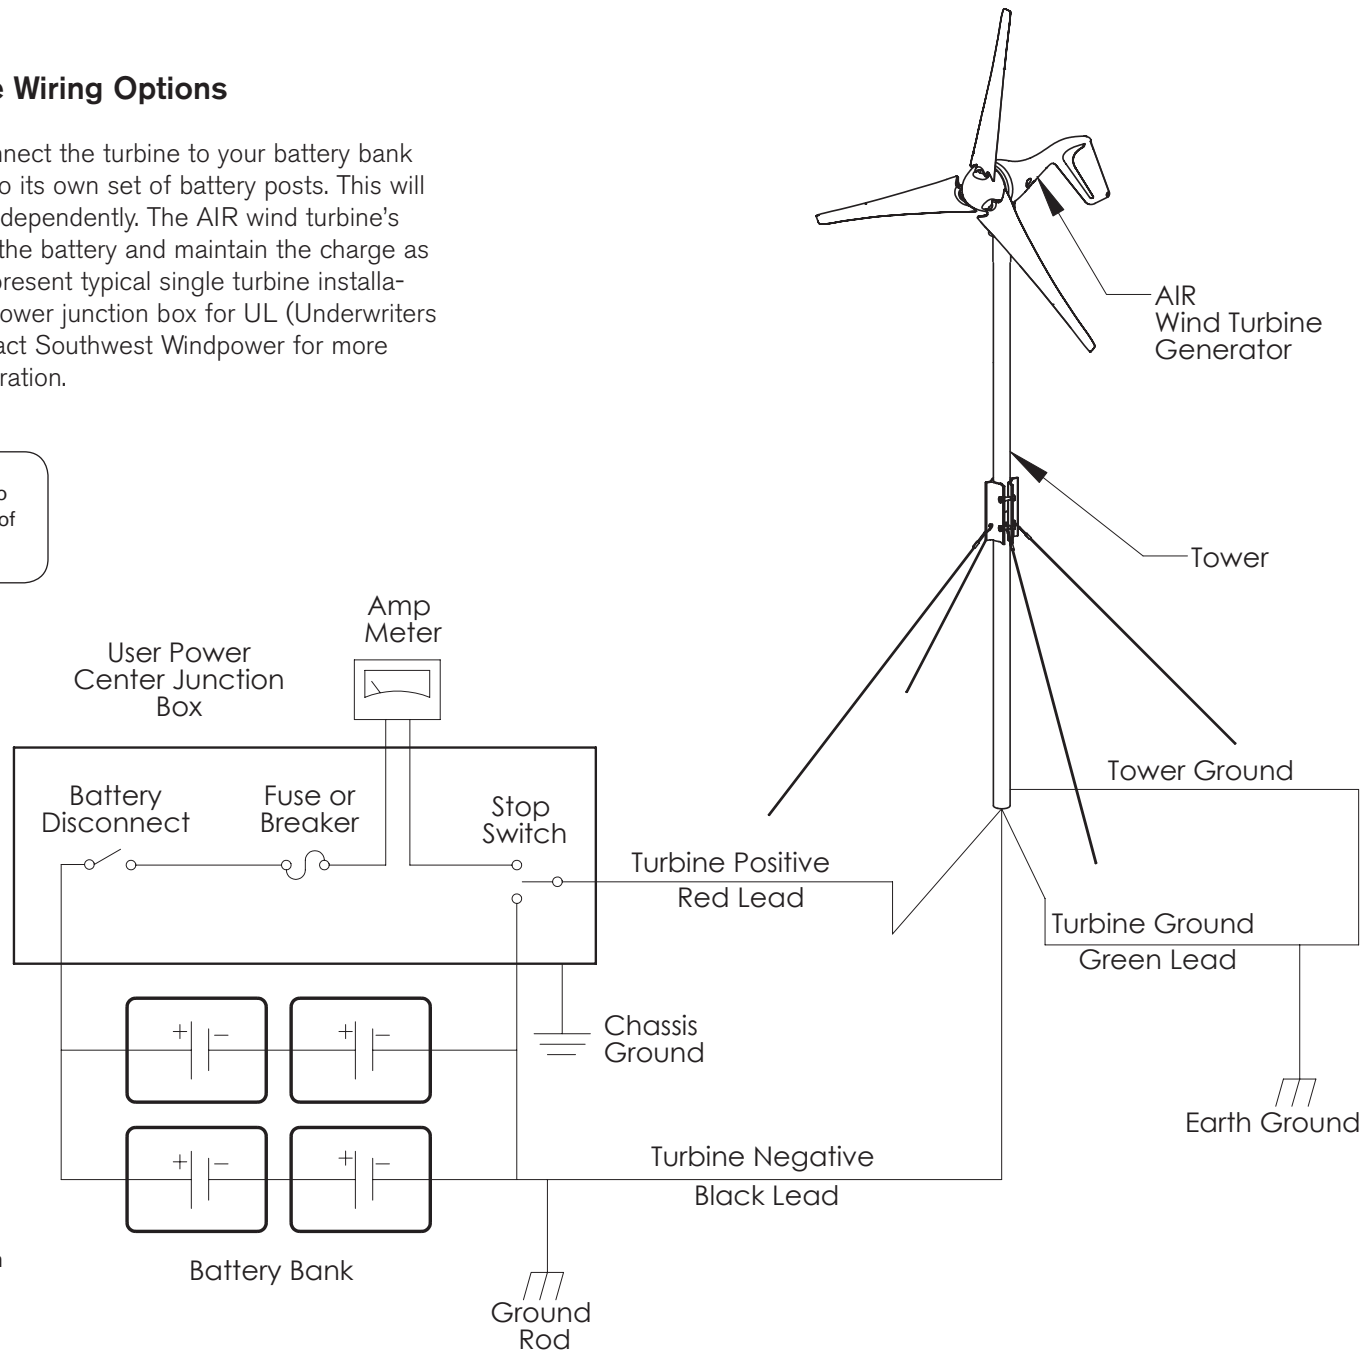
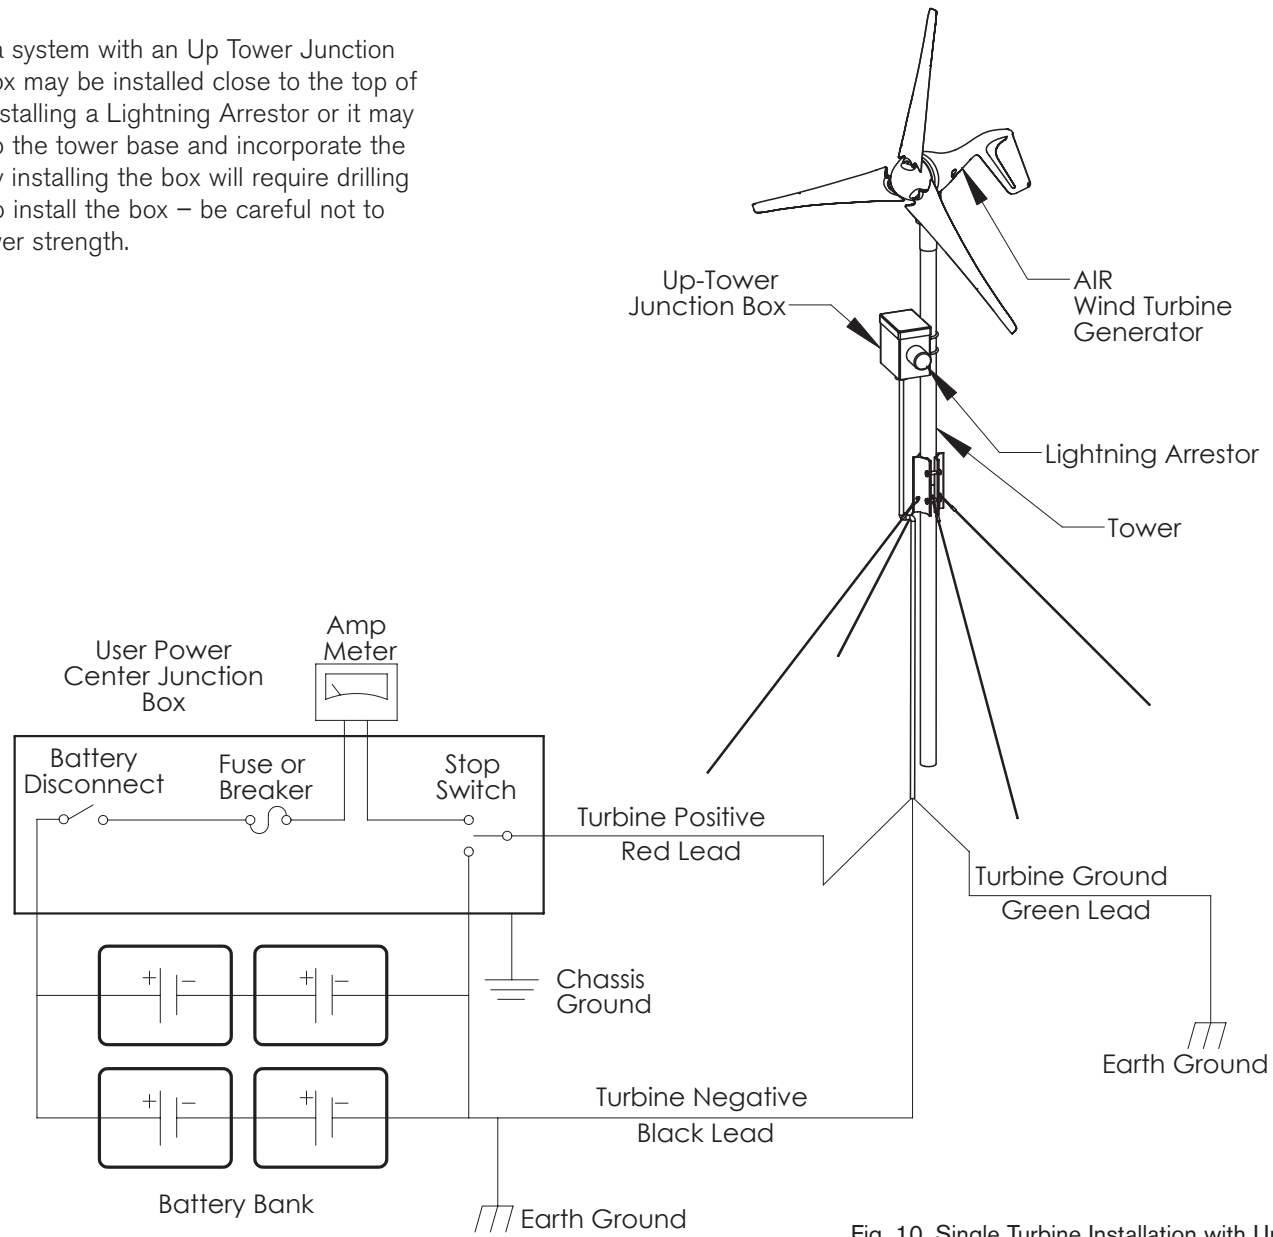

Fig. 9. Single Turbine Installation
Fig. 10. Single Turbine Installation with Up-Tower Junction Box
The recommended way to connect the turbine to your battery bank is to wire the turbine directly to its own set of battery posts. This will allow the turbine to operate independently. The AIR wind turbine's internal regulator will monitor the battery and maintain the charge as necessary. **Figs. 9 and 10** represent typical single turbine installations. **Fig. 10** includes an up-tower junction box for UL (Underwriters Laboratory) compliance. Contact Southwest Windpower for more information about this configuration.
**Fig. 10** represents a system with an Up Tower Junction Box. The junction box may be installed close to the top of the tower to ease installing a Lightning Arrestor or it may be mounted close to the tower base and incorporate the stop switch. Typically installing the box will require drilling holes in the tower to install the box – be careful not to compromise the tower strength.
The following section (5-8) describes grounding the tower in detail. To ground the AIR wind turbine body, connect the AIR wind turbine ground (green) conductor to the tower ground rod. Alternately the ground (green) conductor may be connected to the negative (black) conductor in which case it will be grounded through the battery bank ground rod. Refer to figures 9 through 12.